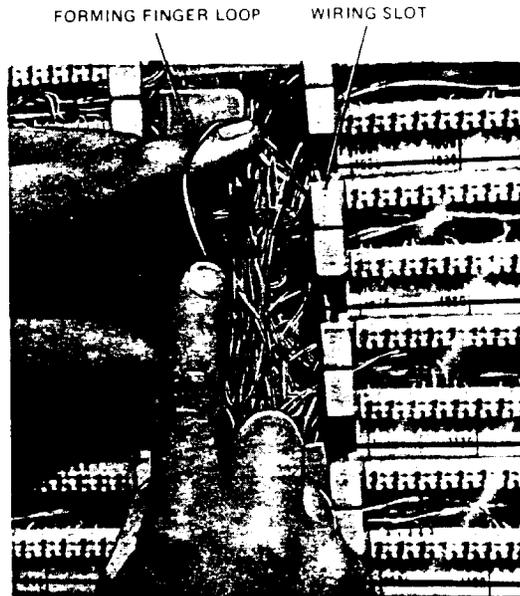

Figure 10. Forming Finger Loop
3.04 Form a finger loop for slack as follows (Figure 10):